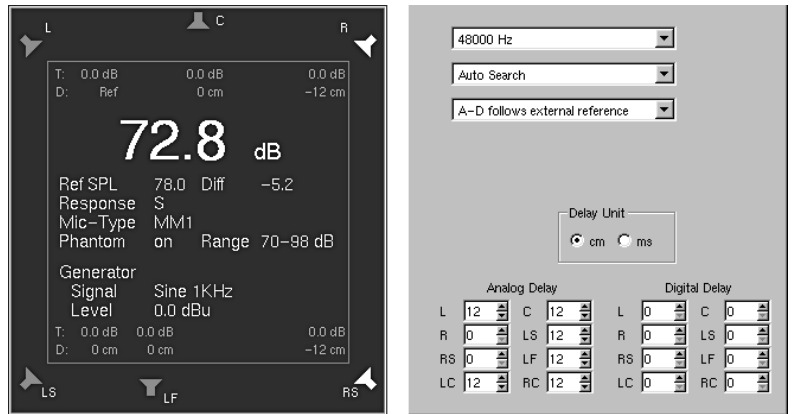

Fig. 4-22: Comparison of the entered negative delay values in the Cal instrument and the displayed values on the Audio System menu card
- Entering negative values in the Cal instrument (i. e. -12 cm) leaves the selected channel unchanged and applies the select delay value (i. e. 12 absolute) to all the other channels. All channels are delayed except the selected channel, thus moving the selected channel forward acoustically. This is reflected in the values displayed in the delay list boxes on the Audio System menu tab (see Fig. 4-22 and Chapter 3.11.3, i. e. selected channels: 0 cm, all the other: 12 cm)